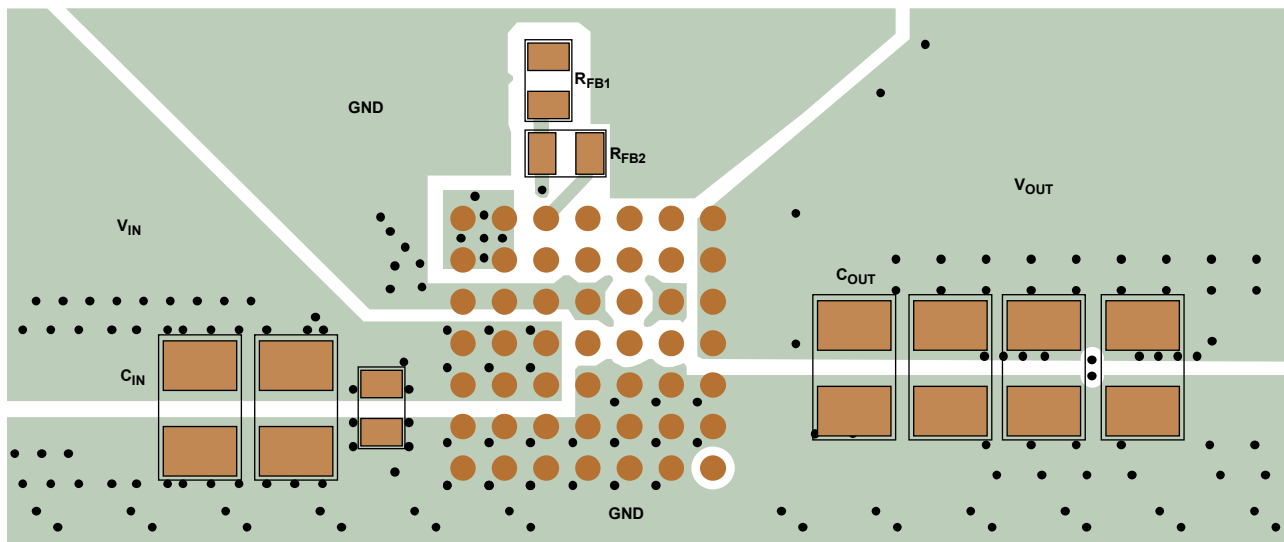

Figure 39. Recommended PCB Layout showing suggested External Components, GND Plane, and Thermal Vias
Most of the headaches associated with PCB layout have been alleviated or even eliminated by the high level of integration of the LTM4740. The LTM4740 is nevertheless a switching power supply, and care must be taken to minimize EMI and ensure proper operation. Even with the high level of integration, you may fail to achieve the specified operation with a haphazard or poor layout. See Figure 39 for a suggested layout. Ensure that the grounding and heat sinking are acceptable.
5. Use vias to connect the GND copper area to the board's internal ground planes. Liberally distribute these GND vias to provide both a good ground connection and thermal path to the internal planes of the printed circuit board. Pay attention to the location and density of the thermal vias in Figure 39. The LTM4740 can benefit from the heatsinking afforded by vias that connect to internal GND planes at these locations, due to their proximity to internal power-handling components. The optimum number of thermal vias depends upon the printed circuit board design. For example, a board might use very small via holes. It should employ more thermal vias than a board that uses larger holes.